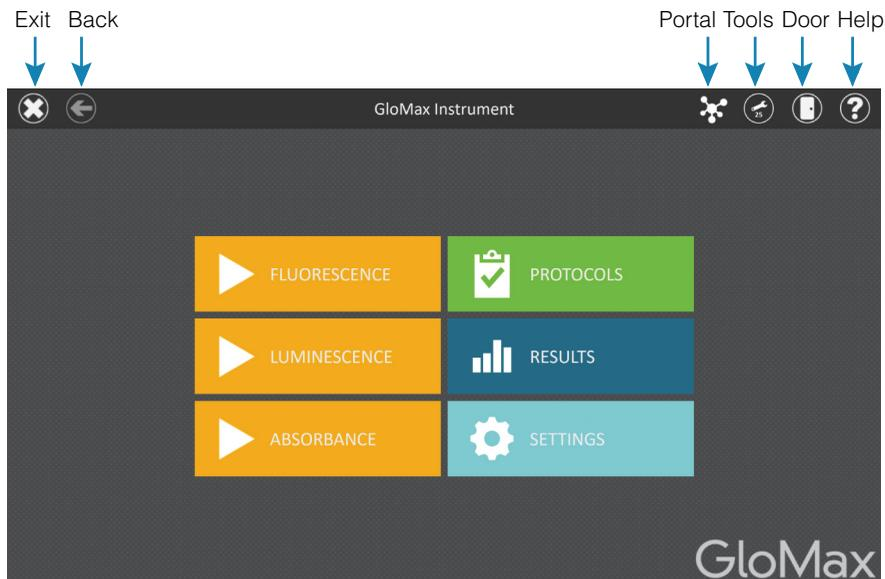

Figure 6. GloMax® Discover software 'Home' screen.
2. Shut down the GloMax® Discover Software by tapping on the **x** in the upper left corner (Figure 6).
1. Open the Door of the instrument by tapping the **Door** icon on the top right corner of the screen (Figure 6). When the plate tray extends, add the plate such that well A1 of the plate corresponds to the label "A1" on the plate tray (Figure 7).